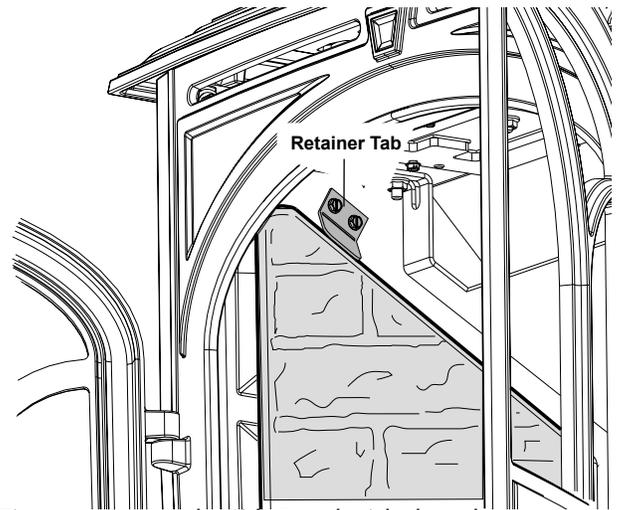

Figure 31. Secure the Side Panel with the tab.
2. Bend the retainer tab out slightly from each side of the firebox. See fig. 31. Set one side panel in place and bend the retainer tab down to secure the panel.